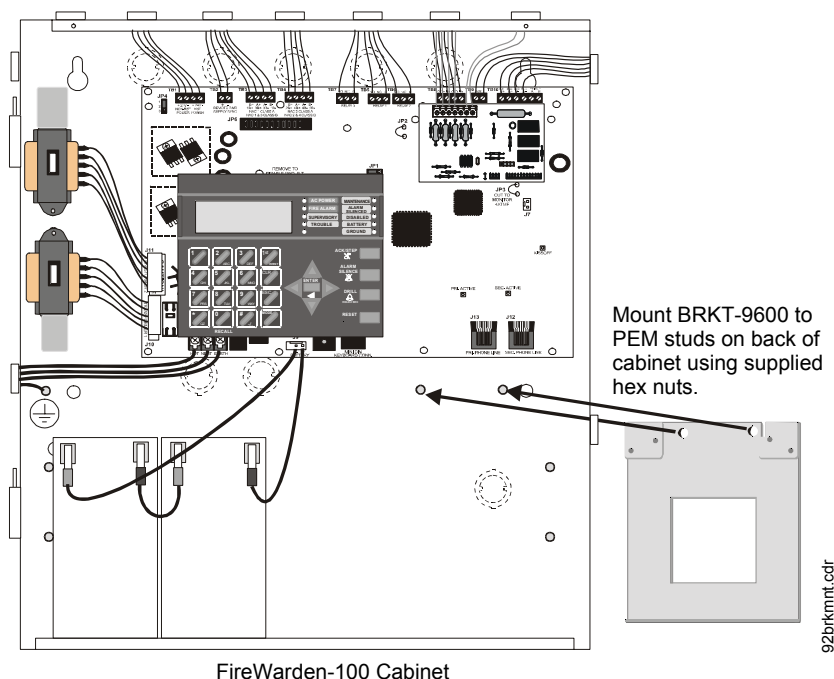

Figure 2.18 BRKT-9600 Bracket Installation
1. Install the two supplied standoffs in location (A) as indicated in Step 1 of the following illustration
5. Install a maximum of two 12 Amp Hour batteries with the orientation illustrated in Figure 2.18. Larger batteries require a separate UL listed battery box